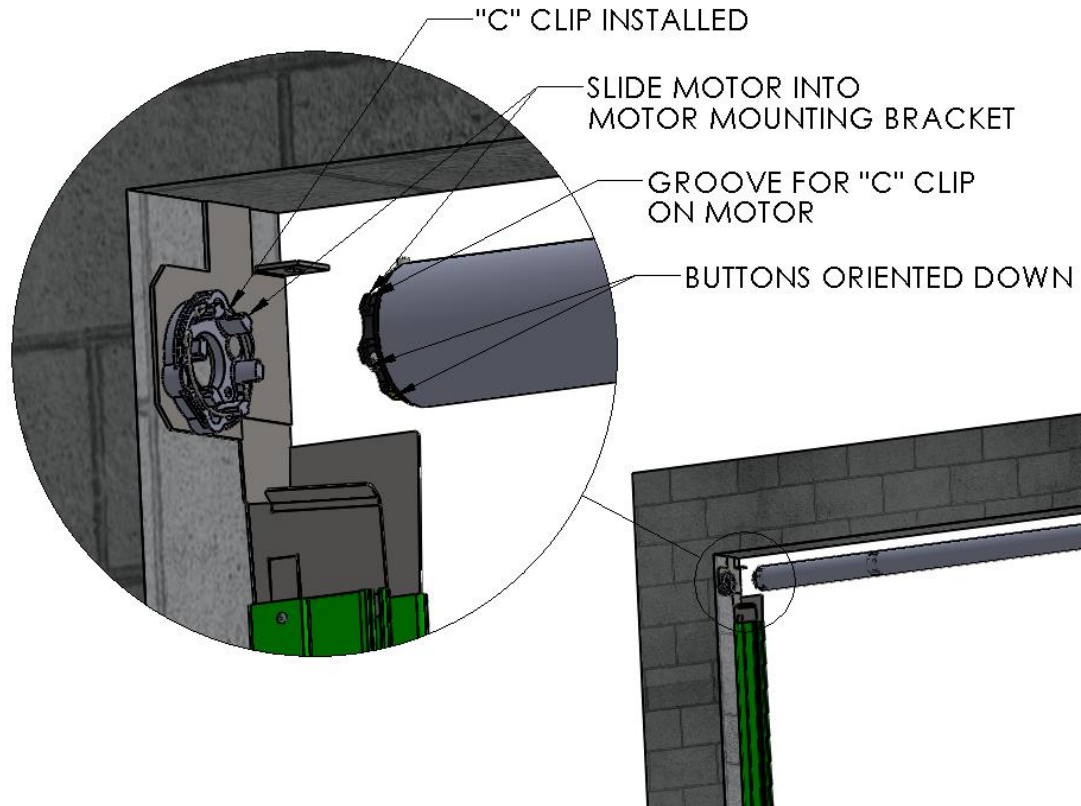

Figure 7 INSTALL L.H. SIDE OF HEADER ASSEMBLY
2. At the right side, push the Header Assembly toward the Idler side to compress (spring loaded) Idler Shaft, and insert the Motor into the Motor Mounting Bracket and pull toward the wall until the "C" Clip snaps into place around the Motor. (Figure 7 INSTALL L.H. SIDE OF HEADER ASSEMBLY)